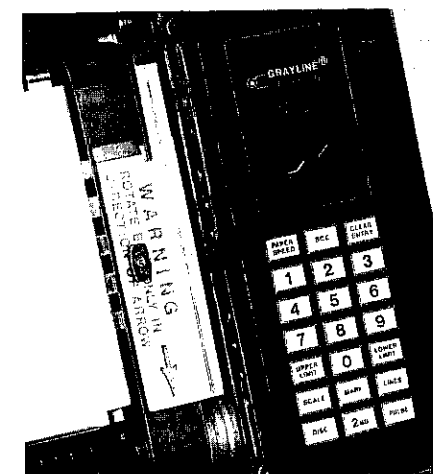

FIGURE 25
3. Move the stylus bolt **DOWN**, to position the marking stylus on the back side of the platen. **NEVER** move the belt up — it could damage the stylus. (See Figure 25).